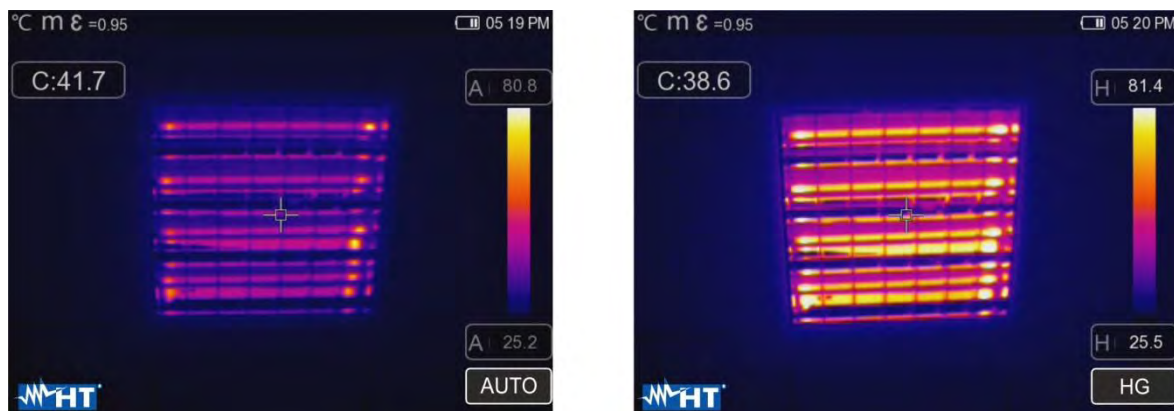

Fig. 42: Setting the Automatic and Histogram modes
- **Histogram (HG)** mode → the minimum and maximum temperature levels of the object framed on the display are always defined automatically by the instrument, as in the Auto mode, but in this case, the areas of the image in which temperature values are very different from the values of adjacent areas are highlighted. The relationship between temperature and color of the palette is **non-linear** according to a histogram algorithm. This mode emphasizes image display in very dark working environments.
1. Press key  or touch the icon “AUTO” found at the bottom on the right side of the display. The screens in Fig. 42 show the selection of modes “AUTO” and “HG”.